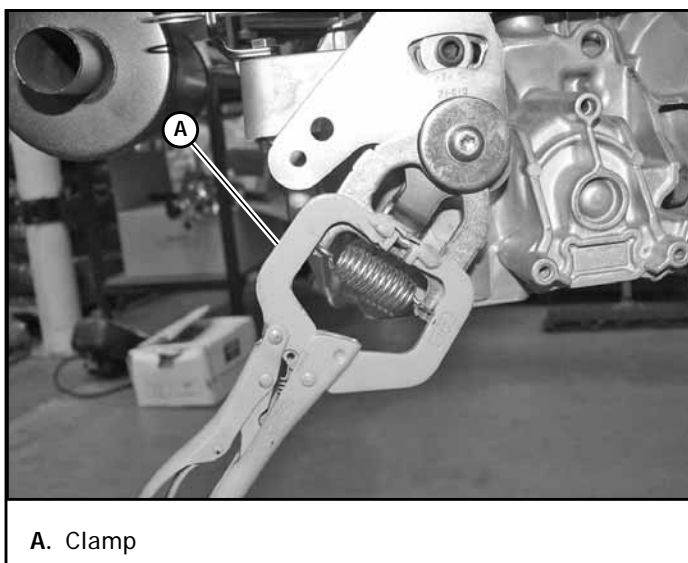

Figure 4-3
6. Place a clamp on the transmission pump arm as shown. Figure 4-3